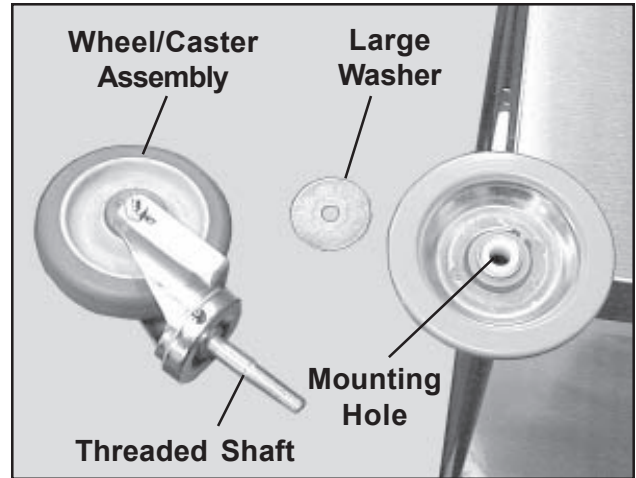

Figure 3. Wheel/Caster Assembly Removed from Cart
3. Lift off the wheel/caster assembly. Remove the large washer from the assembly threaded shaft (Figure 3).
1. Place the large washer on the assembly threaded shaft (Figure 3).